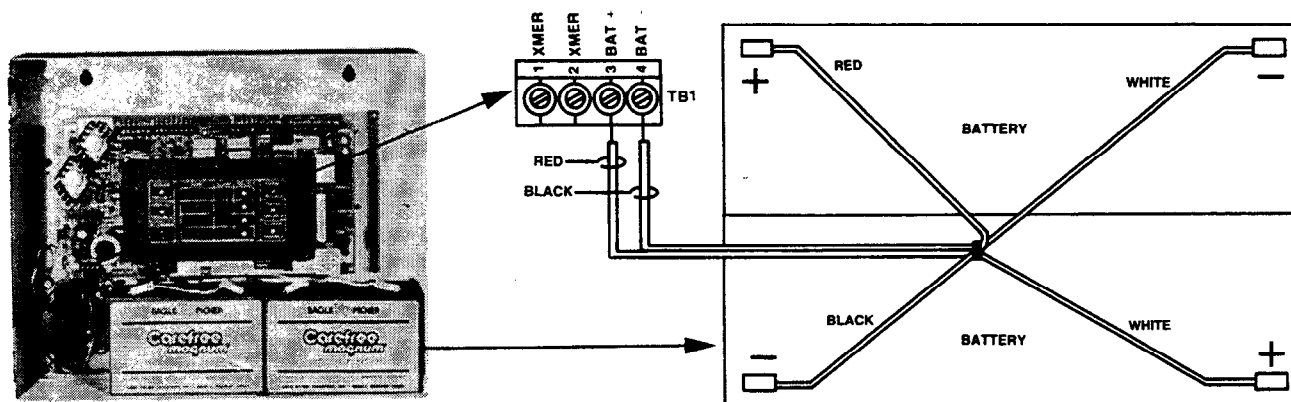

FIGURE 28
4. At battery harness, connect one end of the white jumper to positive terminal of one battery and other end to negative terminal of other battery (Fig. 28).